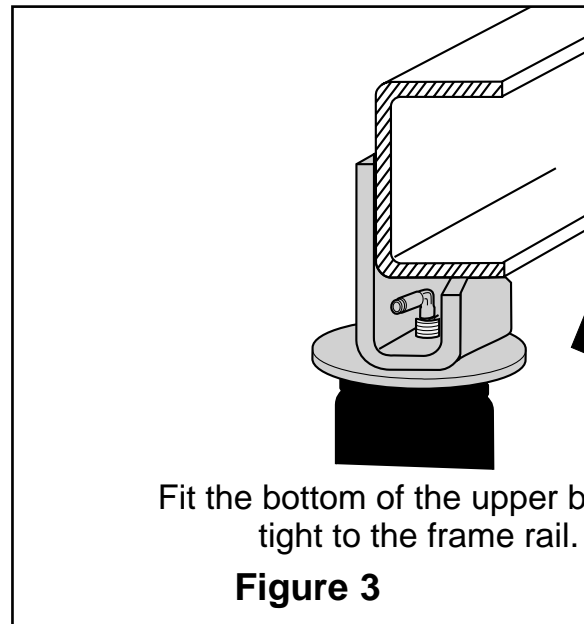
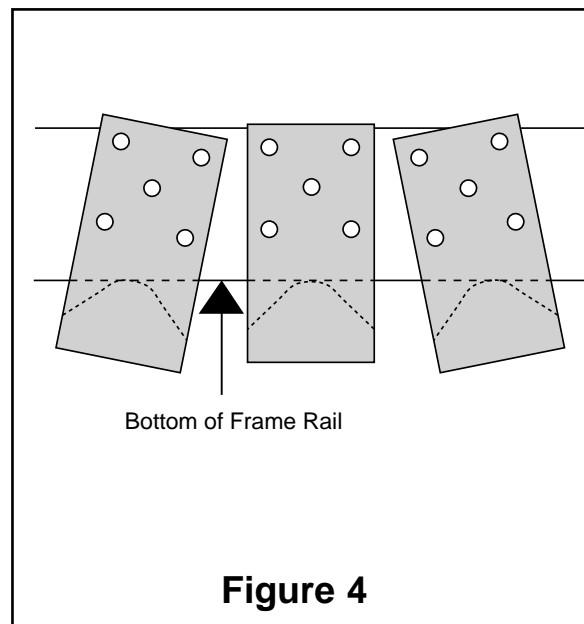

Figure 3
Figure 4
4. To install the upper bracket: lower axle or raise frame until the upper bracket is in line with the lower and at the same angle as the leaf spring. The bottom of the upper bracket must fit tight to the bottom of the frame rail (Figure 3). The upper bracket must be parallel and perpendicular to the lower bracket. The upper bracket is designed so that it can be "tilted" for the proper angle (Figure 4).